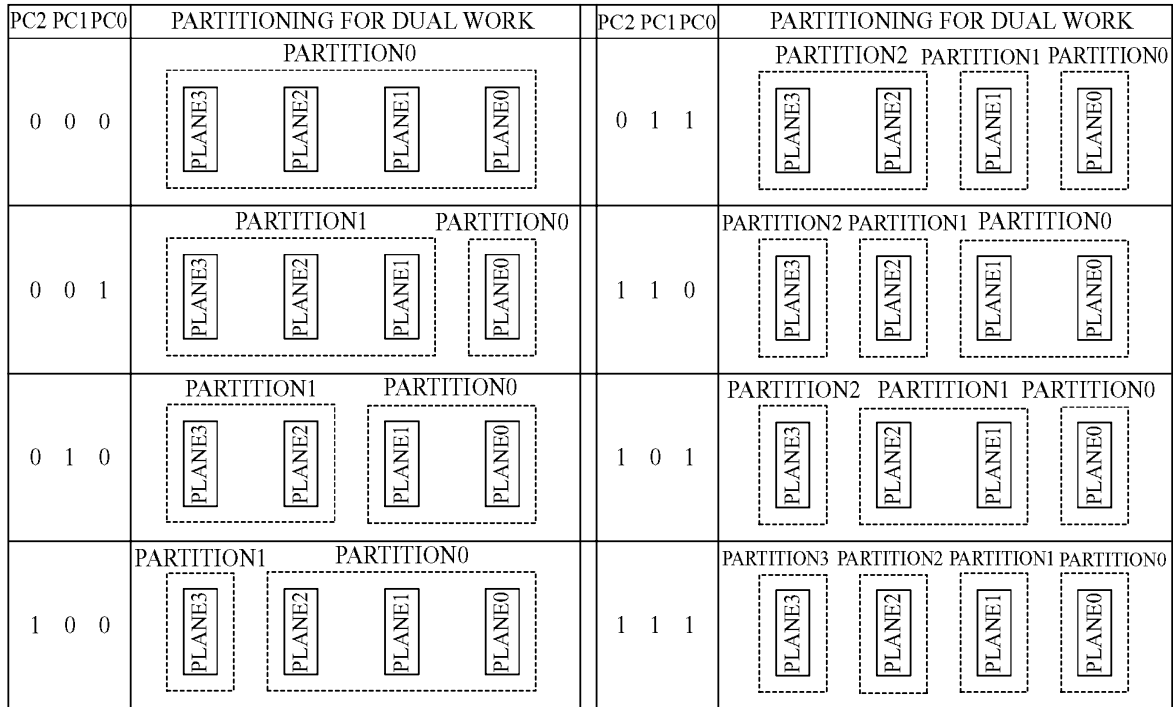

Figure 17. Partition Configuration
The partition configuration shown in Table 17 determines the partition boundaries for the dual work (simultaneous read while erase/program) operation. The partition boundaries can be set to any plane boundaries. If the partition configuration register bits PCR.10-8 (PC.2-0) are set to "001", the partition boundary is set between plane0 and plane1. There are two partitions in this configuration. Plane1-3 are merged to one partition. Status registers for plane1-3 are also merged to one. If the partition configuration register bits are set to "101", the partition boundaries are set between plane0 and plane1 and between plane2 and plane3. There are three partitions in this configuration. Plane1-2 are merged to one partition. If the partition configuration register bits are set to "111", there are four partitions. Each partition is just the same as each plane. Figure 17 illustrates the various partition configuration.
| <p>PCR.15-11 = RESERVED FOR FUTURE ENHANCEMENTS (R)</p> <p>PCR.10-8 = PARTITION CONFIGURATION (PC2-0)</p> <ul style="list-style-type: none"> • 000 = No partitioning. Dual Work is not allowed. • 001 = Plane1-3 are merged into one partition. (default in a bottom parameter device) • 010 = Plane 0-1 and Plane2-3 are merged into one partition respectively. • 100 = Plane 0-2 are merged into one partition. (default in a top parameter device) • 011 = Plane 2-3 are merged into one partition. There are three partitions in this configuration. Dual work operation is available between any two partitions. • 110 = Plane 0-1 are merged into one partition. There are three partitions in this configuration. Dual work operation is available between any two partitions. • 101 = Plane 1-2 are merged into one partition. There are three partitions in this configuration. Dual work operation is available between any two partitions. | <ul style="list-style-type: none"> • 111 = There are four partitions in this configuration. Each plane corresponds to each partition respectively. Dual work operation is available between any two partitions. <p>PCR.7-0 = RESERVED FOR FUTURE ENHANCEMENTS (R)</p> <p style="text-align: center;">NOTES:</p> <ol style="list-style-type: none"> 1. After power-up or device reset, PCR10-8 (PC2-0) is set to "001" in a bottom parameter device and "100" in a top parameter device. 2. See Figure 17 for the detail on partition configuration. 3. PCR.15-11 and PCR.7-0 bits are reserved for future use. If these bits are read via the Read Identifier Codes/OTP command, the device may output "1" or "0" on these bits. |